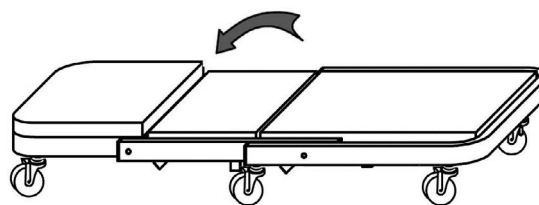

Figure 3 - Adjusting Seat to Creeper configuration
Step 1. Locate, then unlock the spring loaded Lock Pin by pulling out until disengaged, at the same time flip the Head Frame and Middle Frame upward and back towards the Rear Frame section until the Lock Pin can engage the Creeper Seat Locking Sleeve (Fig. 3). Ensure Lock Pin is fully engaged.